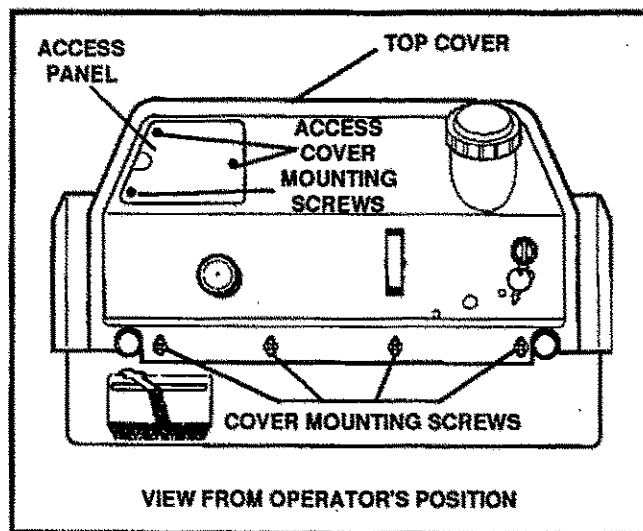

FIG. 8-SERV & ADJ
- Reconnect spark plug wire and replace access cover. (See FIG. 8-SERV & ADJ).
The spark plug is housed in the engine compartment under the top cover (See FIG. 8-SERV & ADJ) and cannot be seen under normal conditions.